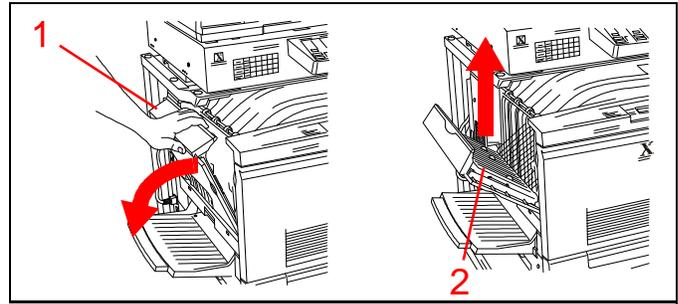

Figure 27
1. See Figure 27. Open the top left cover.